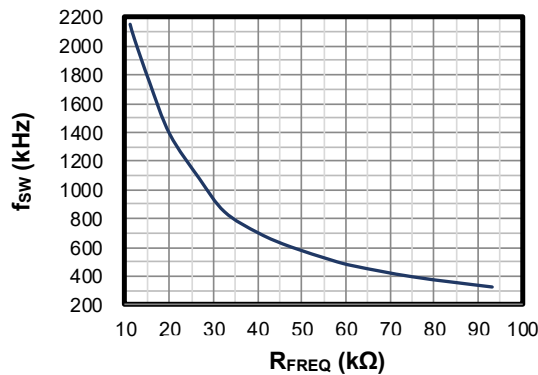

Figure 1:  $f_{SW}$  vs.  $R_{FREQ}$
7. The MPQ4312's switching frequency ( $f_{SW}$ ) can be configured by R3, the FREQ pin's resistor ( $R_{FREQ}$ ). R3 can be estimated based on the relationship between  $f_{SW}$  and  $R_{FREQ}$  (see Figure 1).